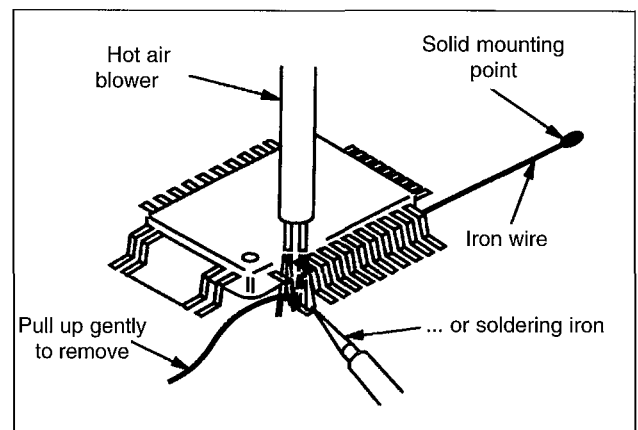

Fig 2-8
b. Affix the wire to workbench or solid mounting point (see Fig 2-8)